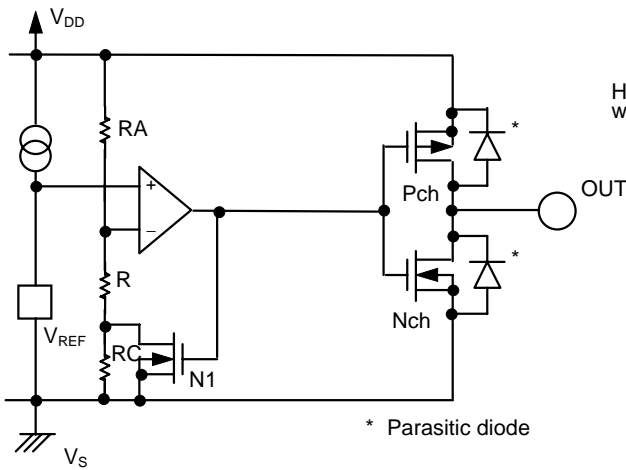
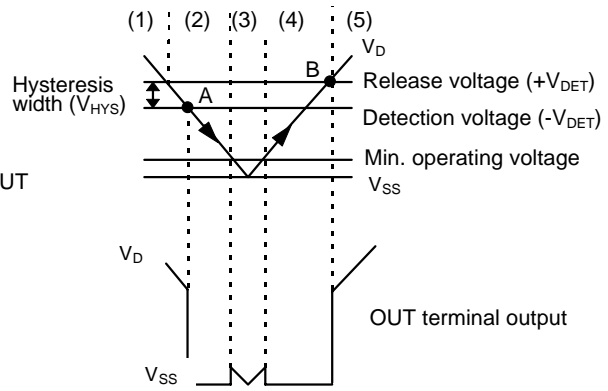

Figure 9
Figure 10
The hysteresis width is the voltage difference between the detection voltage and the release voltage ($B-A=V_{HYS}$ in Figure 10). By giving a device hysteresis, trouble such as noise at the input is avoided.
- (1) When power supply voltage V_{DD} is greater than the release voltage $+V_{DET}$, the Nch transistor is OFF and the Pch transistor ON, causing V_{DD} (high) to appear at the output. With the Nch transistor N1 of Figure 9 OFF, the comparator input voltage is $(RB+RC)/(RA+RB+RC) \times V_{DD}$.
- (2) When power supply voltage V_{DD} goes below $+V_{DET}$, the output maintains the power supply voltage level, as long as V_{DD} remains above the detection voltage $-V_{DET}$. When V_{DD} does fall below $-V_{DET}$ (A in Figure 10), the Nch transistor goes ON, the Pch transistor goes OFF, and V_{SS} appears at the output. With the Nch transistor N 1 of Figure 9 ON, the comparator input voltage is $RB/(RA+RB) \times V_{DD}$.
- (3) When V_{DD} falls below the minimum operating voltage, the output becomes undefined. However, output will revert to V_{DD} if a pull-up has been employed.
- (4) V_{SS} will again be output when V_{DD} rises above the minimum operating voltage. V_{SS} will continue to be output even when V_{DD} surpasses $-V_{DET}$, as long as it does not exceed the release voltage $+V_{DET}$.
- (5) When V_{DD} rises above $+V_{DET}$ (B in Figure 10), the Nch transistor goes OFF, the Pch transistor goes ON, and V_{DD} appears at the output.